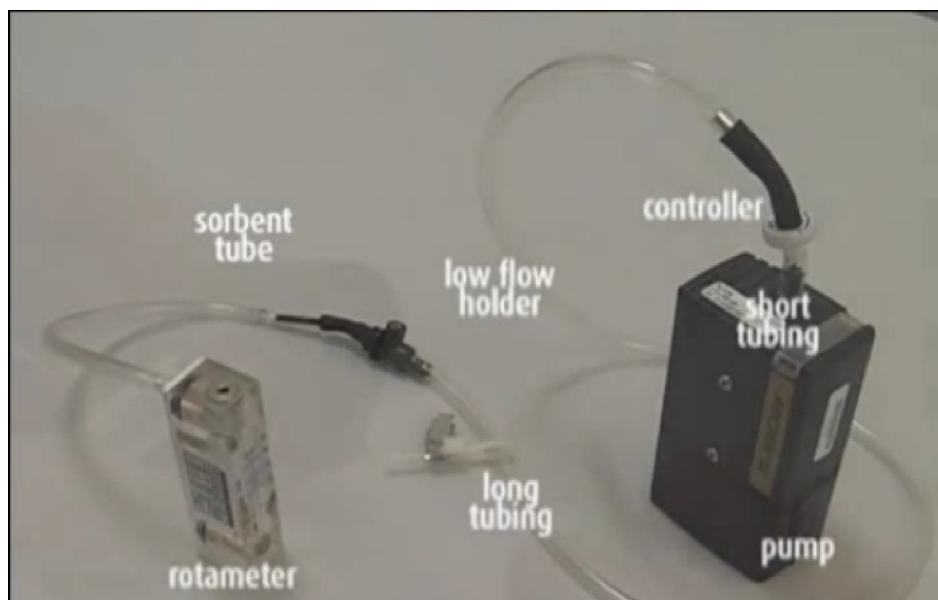
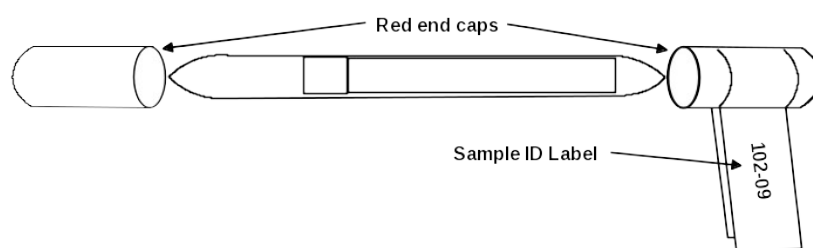

Figure T1-1. Sampling train configuration for calibration.
Figure T1-2. Sorbent tube with end caps and attached sample ID label.
<ul style="list-style-type: none"> • 1 tool bucket with blue Pocket Bucket Tote • 1 blue ink pen • 1 clipboard • 1 black sharpie marker • 1 box of cleaning clothes (wipes) • 1 box nitrile gloves • 1 trash bag • 1 box of cleaning clothes (wipes) • 1 box nitrile gloves • 1 trash bag • roll of blue or green masking tape • 1 set jewelers screwdrivers 	<ul style="list-style-type: none"> • Personal air-sampling pump assembly (may or may not include controller as shown in Figure T1-1) • Sorbent tube breaker • Tubing for pump (2 sections: 1 short, 1 long) • Rotameter Low Flow • Tube cover with clip • Quick start guide - Rotameters • Quick start guide low rate Set-up • Charger for pump • clothing clip with loop (allows tubing to side through it)
- (1) Target air sampling flow rate.** For the AHHS II, the optimum flow-rate of air through the sorbent tube used to capture formaldehyde from the air is 1.5 liters per minute (LPM). This rate is at or near the maximum capability of the personal air sampling pump.
- (2) Sampling train configuration for flow-rate calibration checks.** The sampling train used to collect check calibration of the pumps is shown in Figure T1-1: a long tube coming out of the pump is connected to a (low flow) tube holder and is fed through a clothing clip; the tube holder is connected to an opened ended sorbent tube (arrow on tube points toward the
- (3) **Charging of pump.** All pumps will be fully charged and maximum flow rates checked/adjusted prior to shipment to the field in the technician's equipment [Kit (X)] within a bag labeled "Equipment for T1". The sampling train system (pump, tubes, holders, sorbent tube for calibration at QT, and rotameter) will be completely assembled as shown in Figure T1-1 using an "office calibration only sorbent tube". The Technician must ensure that they keep these pumps fully charged while not in use so that they will be ready when needed. This includes charging them between DUs as opportunities arise to do so.
- (4) **Sampling train configuration for sample collection.** The sampling train used to collect a formaldehyde sample is the same as that used for calibration except that the rotameter and the section of tubing connecting it to the sorbent tube are removed and replaced by a cover cap over the sorbent tube to protect the Interviewer (who will be wearing the sampling train) from the sharp edges of the open ended sorbent tube. The cover cap has a clip on it so it can be easily fastened to the Interviewer's clothing.
- (5) **Breaking open the end of the sorbent tubes.** Use gloves when handling media. Sorbent tubes containing the media used to absorb the formaldehyde are sealed in glass and the ends must be broken open to a diameter of at least 1/2 the total diameter of the outside of the sorbent tube. This is done by placing each end of the tube into the sorbent tube breaker and twisting (rotating) them back and forth a couple of times to score the outside of the tube until the tube snaps along that score line. Shake excess glass shards out of the tube breaker into the trash.
(6) The three categories of sorbent tubes. All sorbent tubes come with 2 red caps to cover the ends when not inserted into the sampling train. They all contain the same materials and media. Labeling of the tubes is done by wrapping a self-stick label around one of the cap ends as shown in Figure T1-2: For the AHHS II, the tubes are loosely categorized into three categories:
- (b) **Field calibration only.** At least one sorbent tube per PSU is required for field calibration of the sampling train. It gets labeled using a self stick label containing the words "Field calibration only". This label is placed as shown in Figure T1-2.